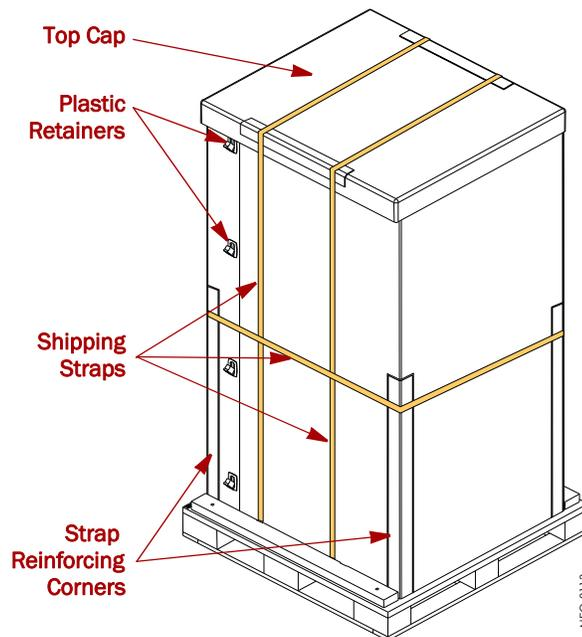

Figure 2-2: Library Packaging Components
2. Remove the outside packaging (Figure 2-2).